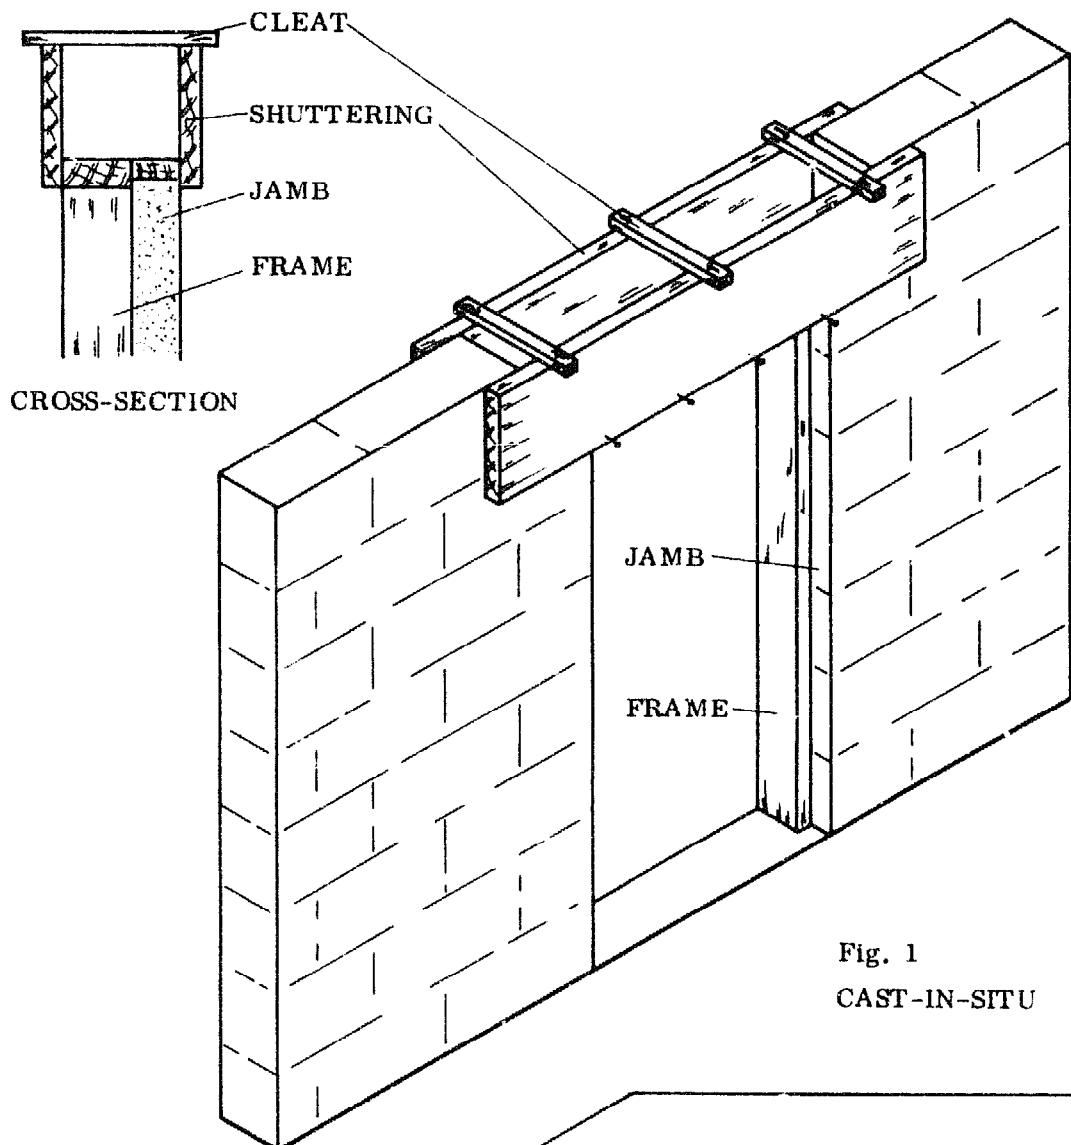

Fig. 1
- **CAST-IN-SITU:** This method is the most common one in Rural Building. The lintel is cast in situ; in the place where it is needed (Fig. 1). The advantage of this method is that no soffit board is needed for the form, because the head of the door frame acts as the bottom of the form, provided that the frame has been installed already. A further advantage is that any roof anchorage, if needed here, can easily be inserted into the reinforcement cage at the correct position.